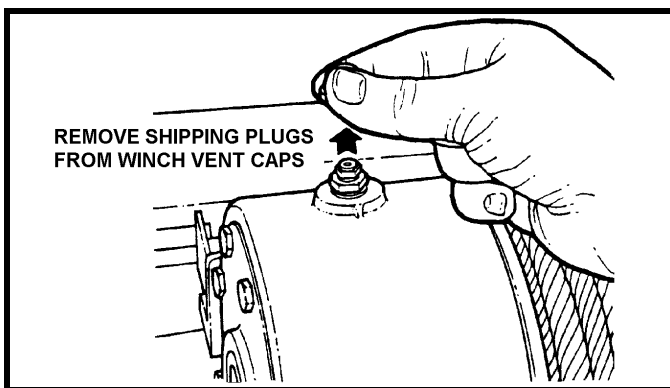

FIGURE 3.5
- 3.7** Before operating your wrecker, remove the Shipping Plugs from the Winch Vent Cap. See Figure 3.5.